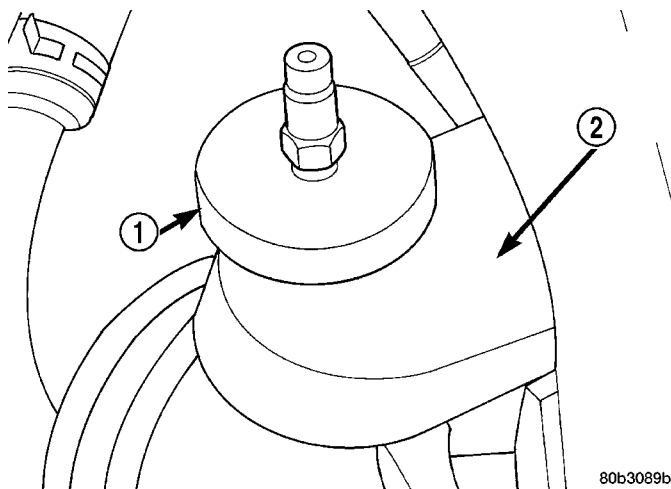

Fig. 1 Pressure Bleeding Adapter Mounted On Fluid Reservoir
(1) Remove filler cap from the top of fluid reservoir on master cylinder.
(2) Install Adapter, Special Tool 8224, in the caps place on the reservoir (Fig. 1).